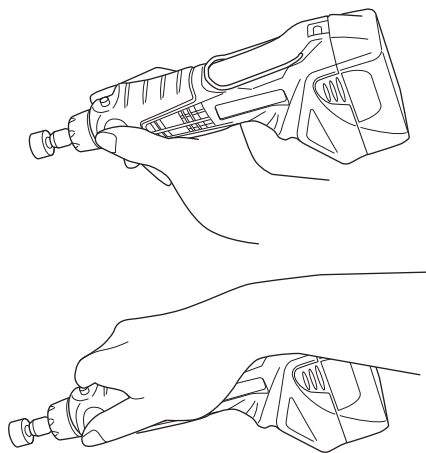

Fig. 10
If this happens, with the collet nut loosened, press the end of the tool lightly against a hard object. (Fig. 10)
- The grinder narrows toward the tip tool holder. Place your finger on the narrow section and hold the grinder for easy operation. (Fig. 10)